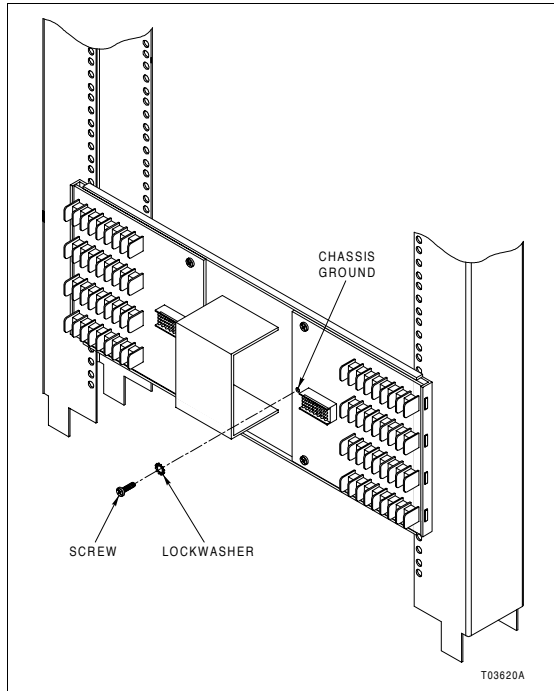

Figure PR2-2. Chassis Ground Connection
- 3. Connect chassis ground to the termination unit by installing a screw with lockwasher in the location shown in Figure PR2-2.